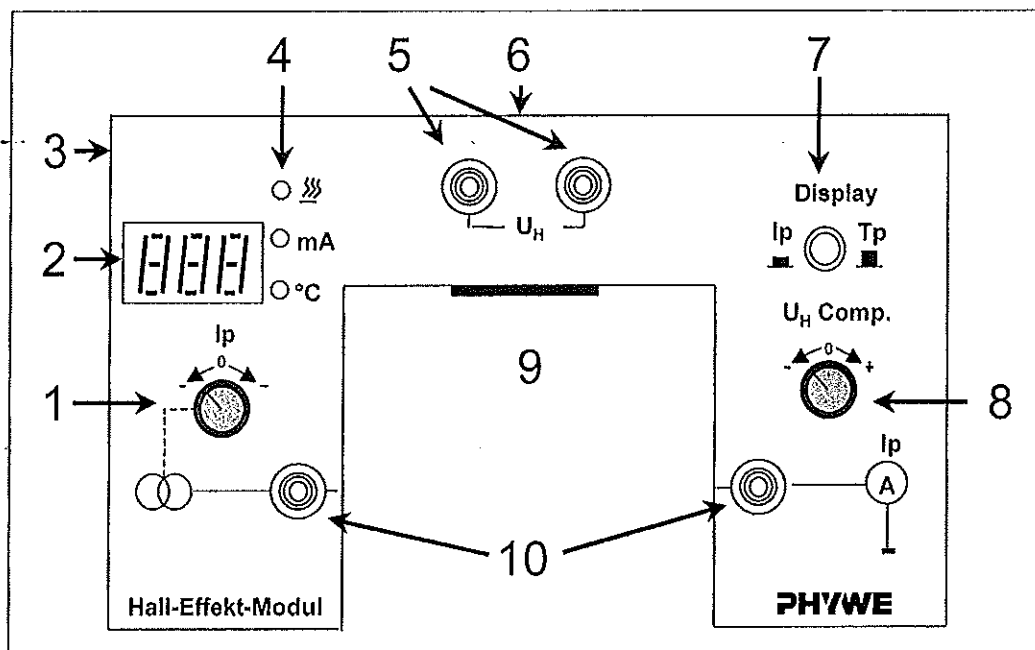

Fig. 1: View of the front of the Hall module with the various operating elements and displays.
3.1 Function elements and operating elements (Fig. 1 and 2)